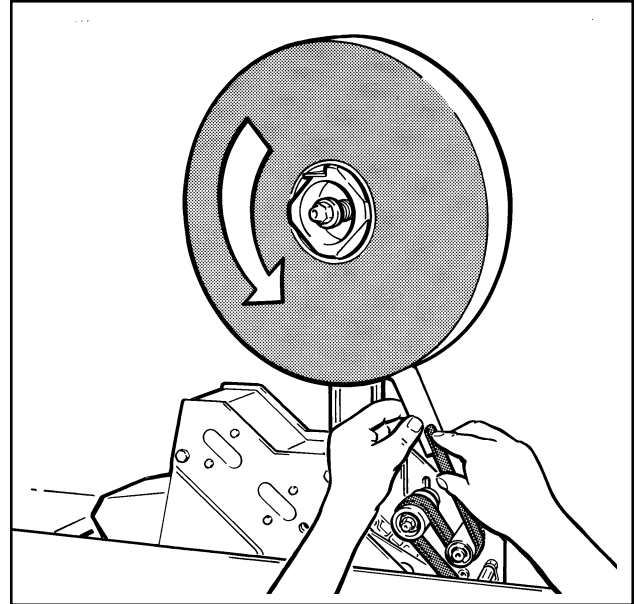

Figure 3-4—Tape Loading and Threading
- Place tape roll on tape drum to dispense tape with adhesive side forward. Seat tape roll fully against back flange of drum. Attach tape lead end to threading needle as shown in Figure 3-4.